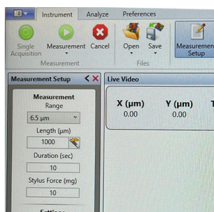

Figure 3: Measurement Setup window
- On the Measurement Setup window (see Figure 3), set your range, length, duration and stylus force.